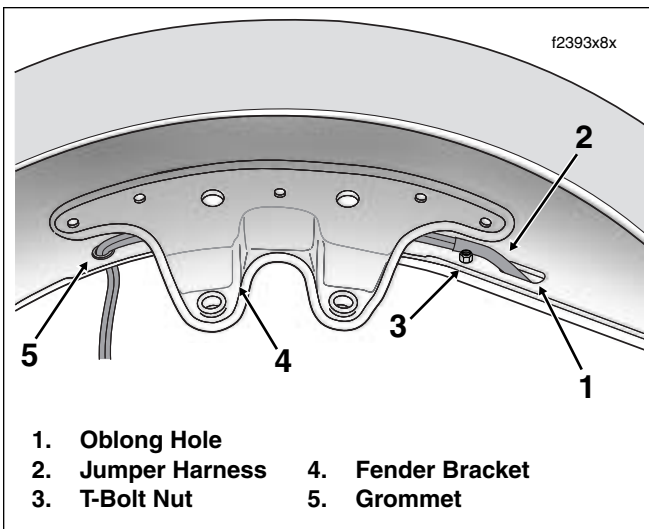

Figure 8-50. Left Side Front Fender Well
9. Reaching under left side of fender, route wires of the jumper harness rearward between tee bolt nut and fender bracket and then beneath fender bracket to grommet. See Figure 8-50.